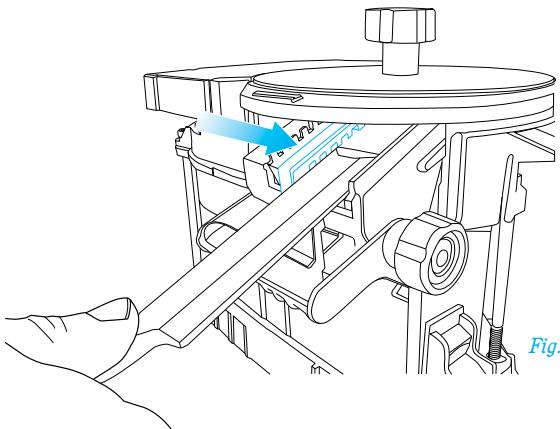

Fig. 4-3
**Move Fence lightly against tool using the Fence Alignment Knob on right side of port.** Leave Fence loose enough for tool to slide between Fence and guide rail. See fig. 4-3.